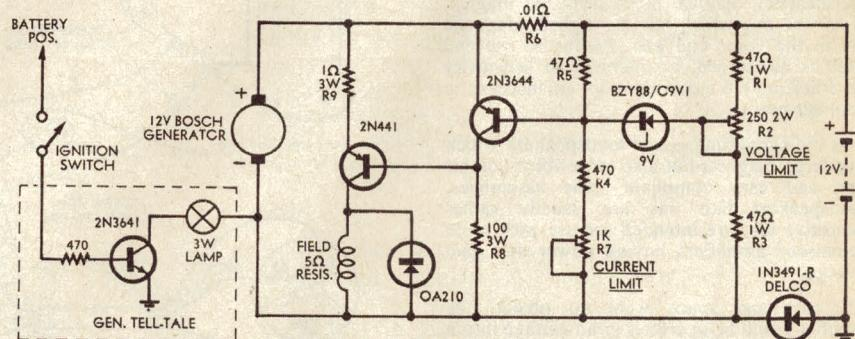
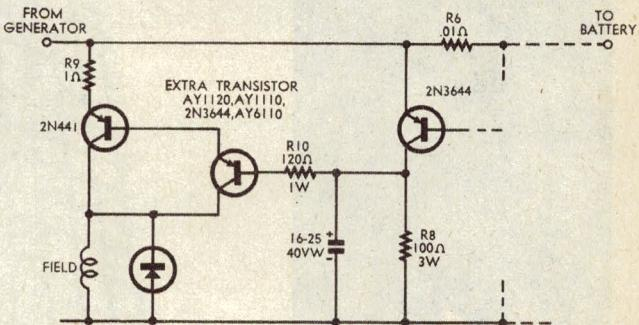
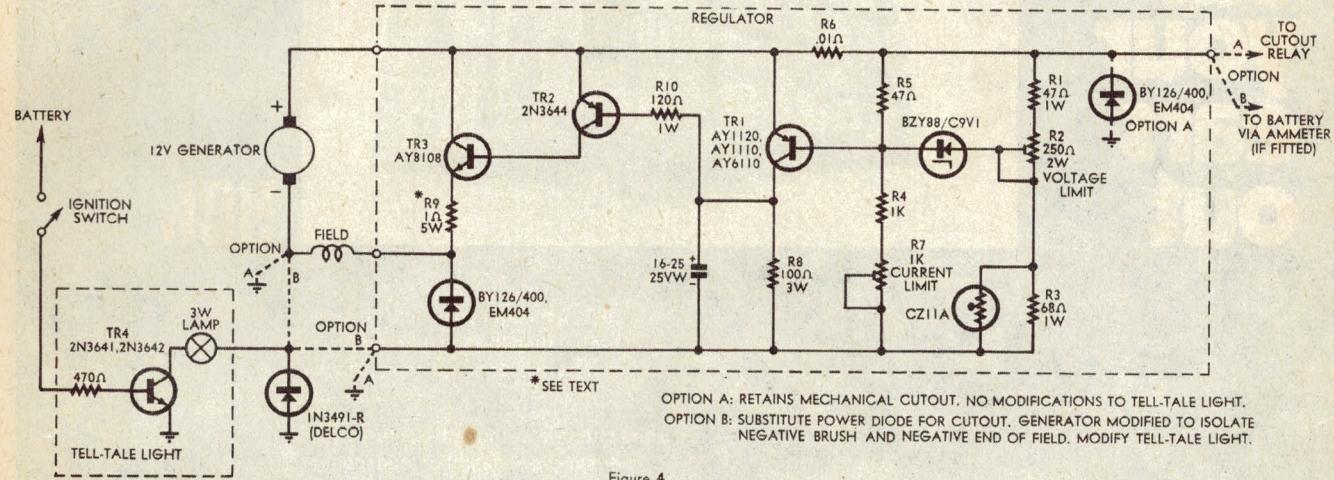

Figure 1
Figure 6
Figure 4
In the "Reader Built It" series for May, 1967 (reprinted June 1970) a circuit and description for a solid-state voltage regulator for a negative chassis DC generator system was published (figure 1).
- (1) Improvement of regulation characteristics.
- (2) A circuit for positive chassis systems.
- (3) Optional facilities which eliminate the need for internal generator modifications.
- (4) A simple attempt at temperature compensation.
- (5) Regulation of automotive alternators. Developments from figure 1 for solid-state alternator control are given.
The purpose of the current regulating function is solely to prevent more than the maximum rated current being drawn from the generator. Ideally, no regulation should begin until the output rises to the rated maximum for the generator, after which generator output would remain constant (see figure 2). (Relay regulators approximate closely to this performance). The performance of the type of regulator represented by figure 1 is shown in figure 3.
It was considered after testing a regulator of similar sensitivity to that of figure 1, that provision of higher sensitivity would provide a worthwhile improvement in performance. An extra transistor was added in composite connection with the output transistor, leading to the circuit of figure 4 for negative chassis systems. The circuit was rearranged to use type AY8108 in the output stage, as this type has advantages which will be discussed later. The final gain had to be reduced by adding R10, which together with the capacitor across R8, was required to prevent "hunting".
In the original circuit (figure 1) the cutout relay was eliminated by using a power diode. For reasons explained in the May 1967 article, this led to a need for internal generator modifications to bring out the chassis ends of armature and field to a new terminal isolated from the frame.
The actual current regulator performance provided by the circuit in figure 1.
This circuit is similar to that of figure 4, except that it is designed for positive chassis systems. Note that in both circuits the dotted connections provide for mechanical cut-out or diode operation, as the user prefers.
For those who built a unit according to the original design (figure 1), the following simple modification is suggested. (Figure 6).
Figure 8 is similar to figure 5 upside down. Figure 9 is similar to figure 4. In each case, the current-control components are omitted. Except for this omission, the regulating action and adjustment are identical with the corresponding DC generator circuit.